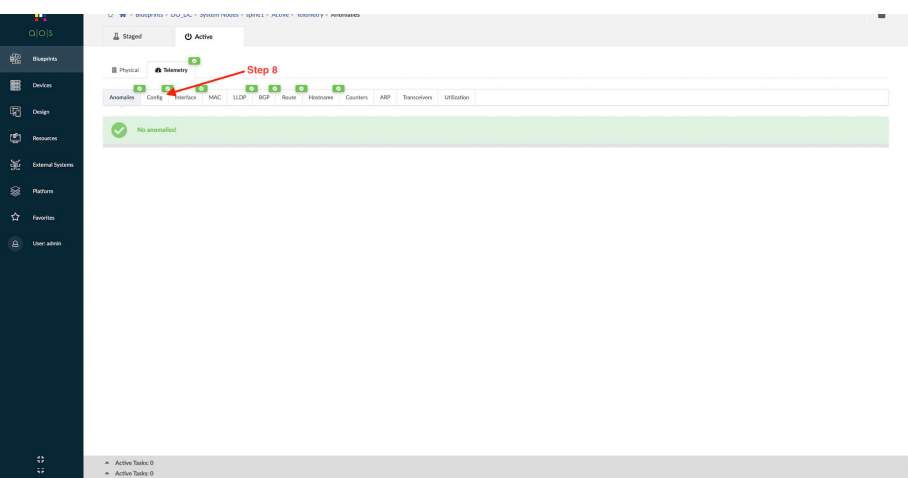

Figure 7.14 Verifying a Configlet Has Been Applied
Step 8: Click Config. See Figure 7.14.